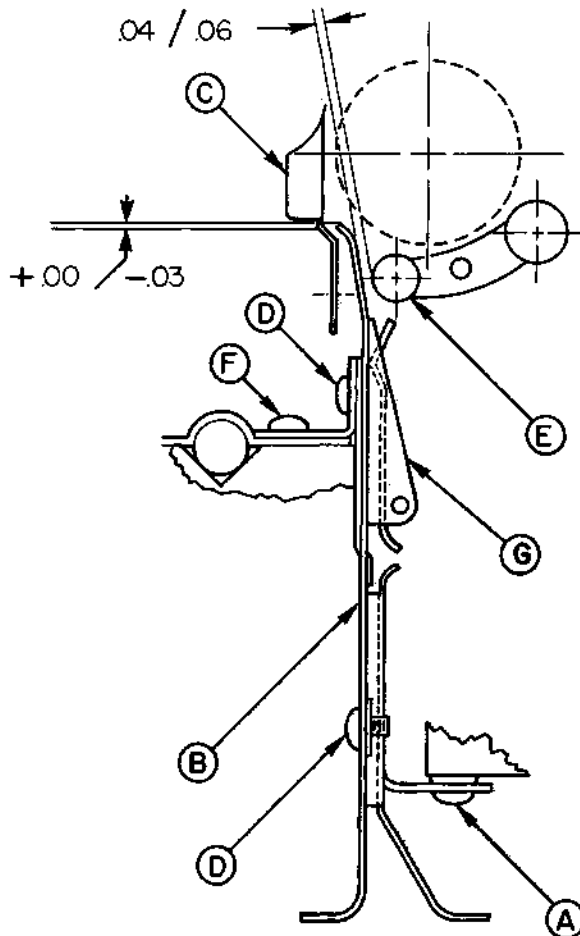

Figure 5-44
2. Move the Paper Release and Platen Position levers fully forward. Make sure all paper chute screws are loose, except those for the paper out switch and the front chute bottom bracket (Figure 5-44 Item A).
Refer to Figure 5-44.